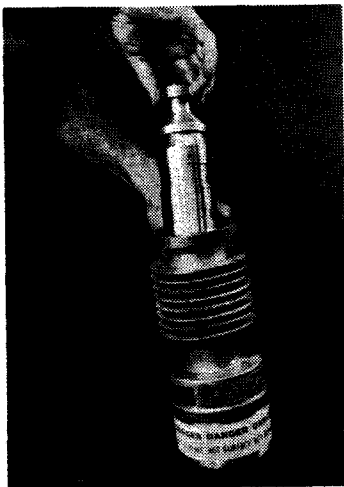

Figure 6-30. Lift Jet Assembly Out of Diffusion Pump
- a. Remove the spring and carefully lift out the jet assembly (Figure 6-30). Wipe excess oil from jet.